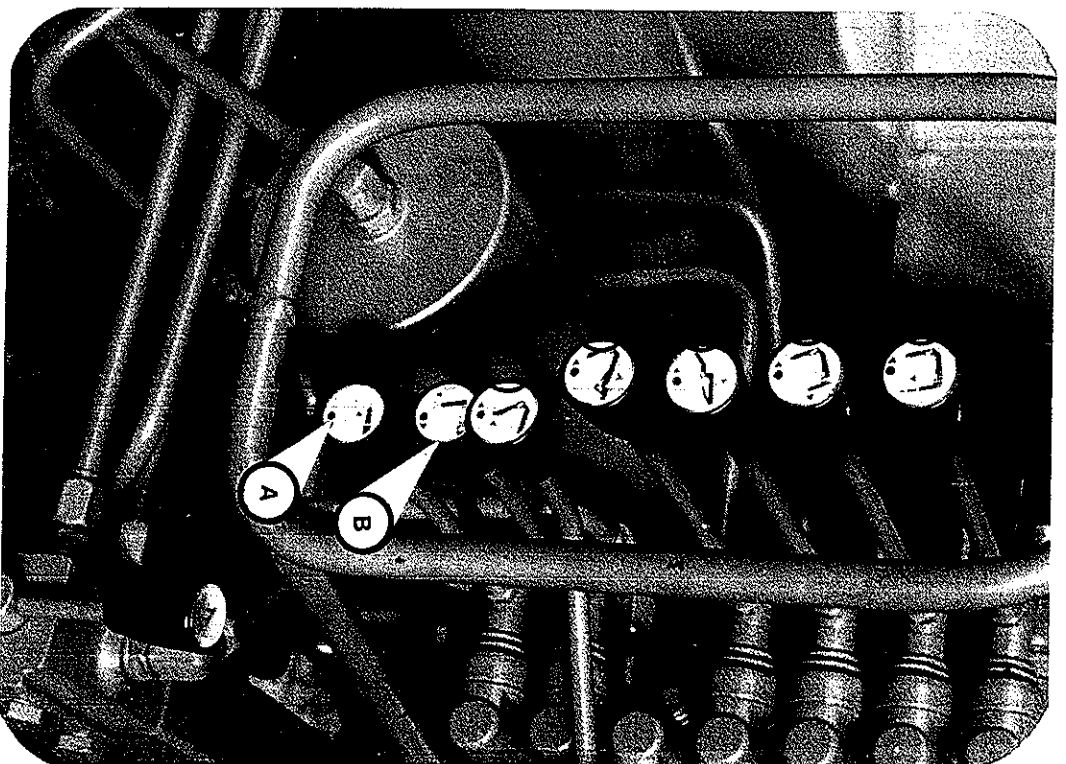
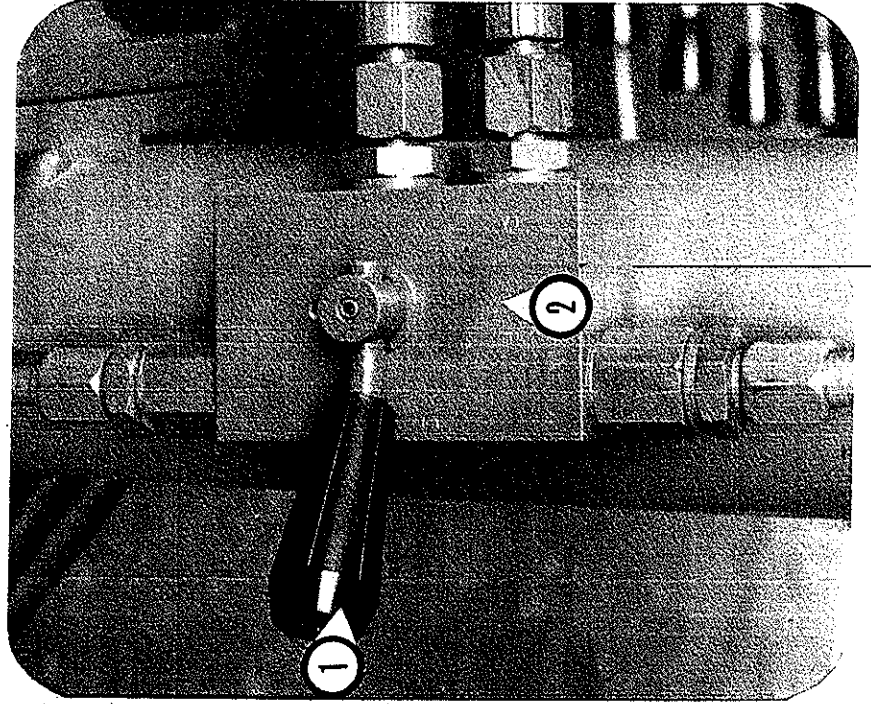

Fig. 1
Fig. 4
7. Operate lever no. 2 (fig. 1) which controls the unfolding of inner boom until it is nearly in vertical position and then operate levers 3 and 4 (fig. 1) to unfold middle and outer booms.
8. Bring the lifting hook on the vertical of the load to be lifted by operating lever 1 (fig. 1) to rotate the crane and levers 3, 4 and 5 (fig. 1) to increase radius.
15. Leaving inner boom approximately in vertical position, re-enter the sliding sections acting the lever 5 (fig. 1) fold then outer and middle booms bringing to stroke end the corresponding rams with lever 3 and 4 (fig. 1).
17. Lower inner boom, lever 2 (fig. 1) in horizontal position, controlling that inner and outer booms lean on the stops welded on the base.
- 1) The independent extension of the four outriggers is obtained by moving the lever «A» (fig. 1) and by alternating the positions of the deviator lever (see scheme fig. 2) or the one on the double control of the deviator (see scheme fig. 3).
- 3) Turn the lever of the tap incorporated in the check valve (fig. 4) on position 1 (open) and operating the lever «B» (fig. 1) obtain the descent of the outriggers to the ground. Turn the lever of the tap on position 2 (closed) and repeat the operation with the other outrigger the vehicle is now stabilized.